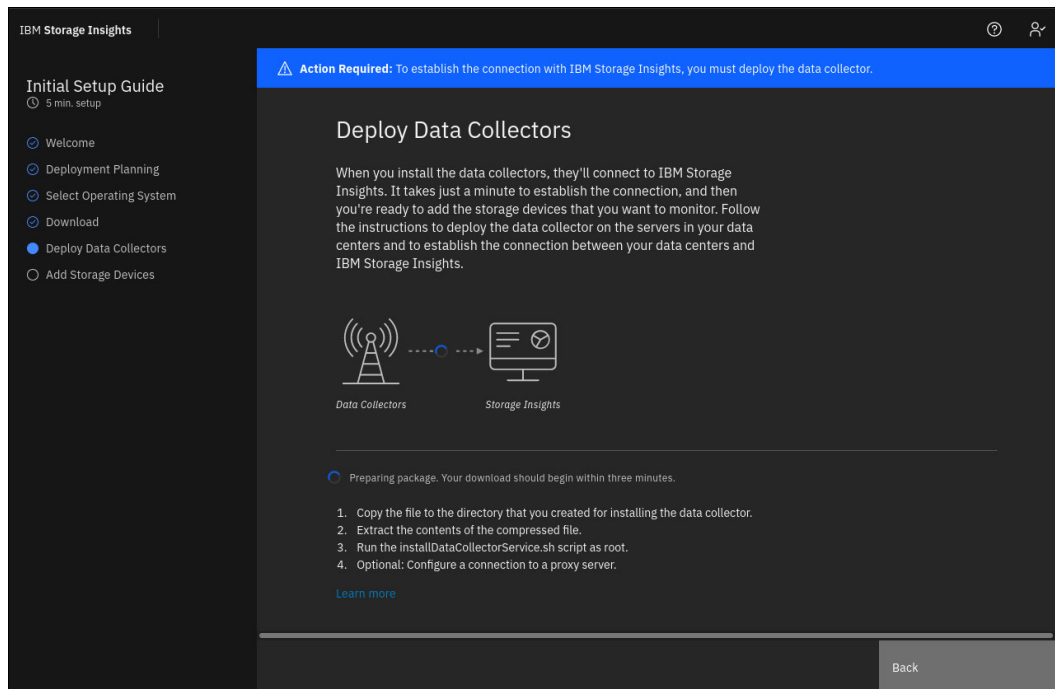

Figure 9-34 Downloading the data collector in preparation for its installation
3. Follow the guidance in the Deploy Data Collectors window to download and deploy the data collector, as shown in Figure 9-34.